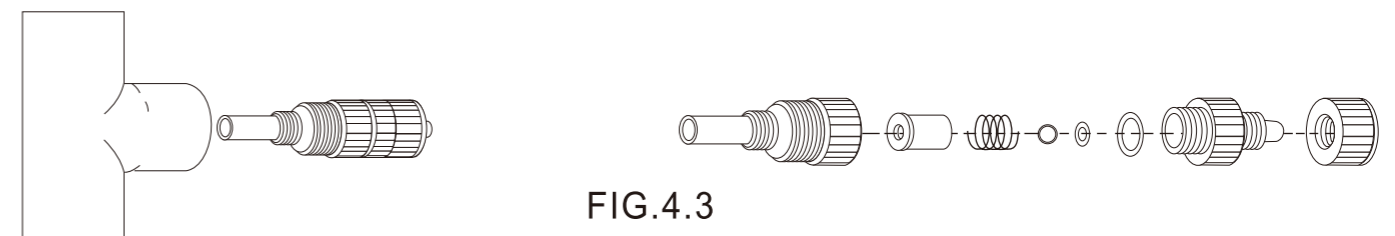

FIG.4.3
- ✓ Periodically clean the injection/check valve assembly, especially when injecting fluids that calcify such as sodium hypochlorite. These lime deposits and other build ups can clog the fitting, increase the back pressure and interfere with the check valve operation. See section FIG.4.3.
Trim the other end of the outlet tube leaving only enough slack to connect it to the Injection/Check valve Fitting (FIG.4.3). Increasing the length of the outlet tube increases the back pressure at the pump head, particularly when pumping viscous fluids.